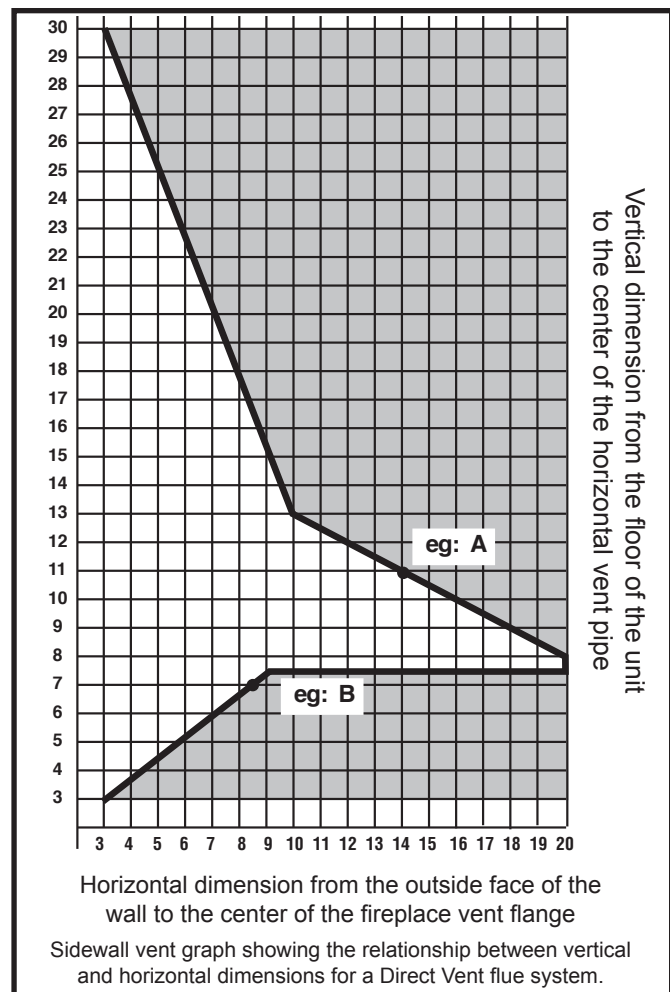

Fig. 10 Sidewall venting graph. (Dimensions in feet)
1. Determine the height of the center of the horizontal vent pipe exiting through the outer wall. Using this dimension on the Sidewall Vent Graph (Fig. 10) locate the point intersecting with slanted graph line.